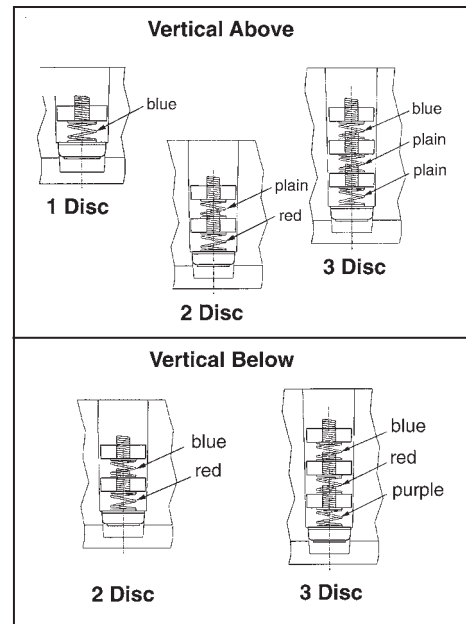

Figure 2
*For vertical brakes, refer to Figure 2, page 3.
Vertically mounted brakes (motor shaft position) require separator springs in the stationary components (except single disc vertical below) to allow proper airgap between discs. Note color coded sequence before removing them from the brake, or refer to *Figure 2*.
* For vertical brake assembly refer to Figure 2, page 3.